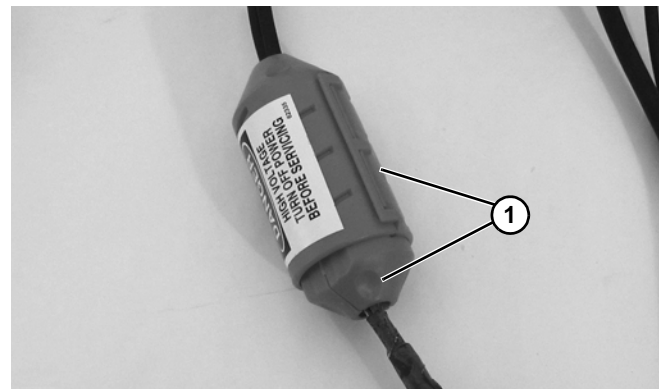

Figure 30
1. Twist covers (**Figure 30, item 1**) apart.